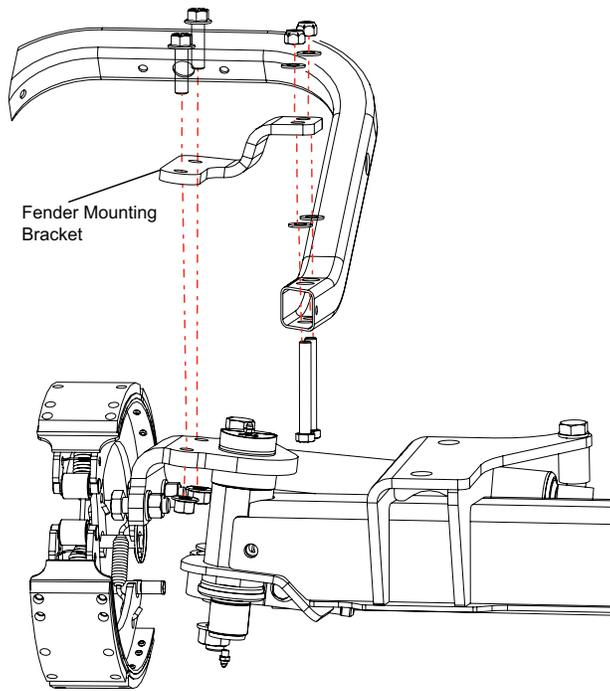

Figure 5: Remove existing mounting bracket.
4. Remove the fender mounting bracket and discard (see Figure 5).